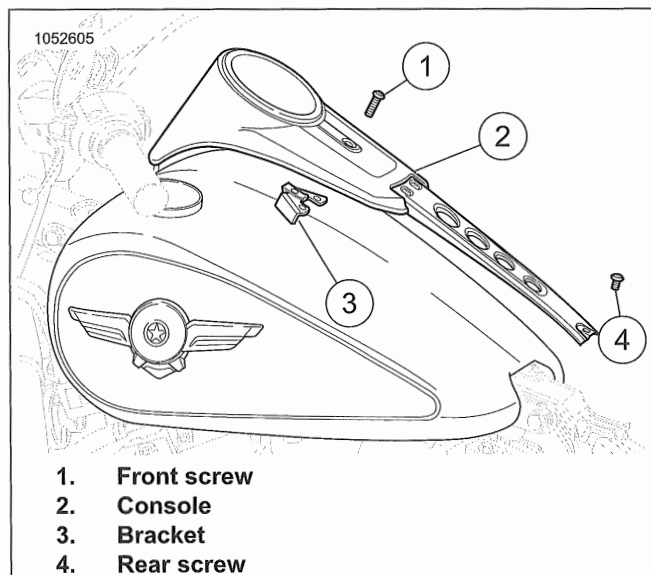
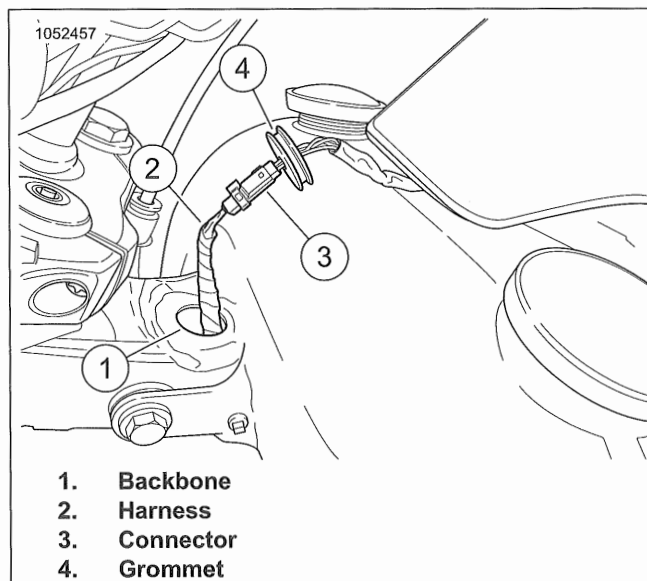

Figure 6-5. Console
Figure 6-6. Console Harness
1. See Figure 6-5. Detach console.
- a. Remove front screw (1).
- b. Remove rear screw (4)
- c. Move console (2) rearward.
2. See Figure 6-6. Disconnect connector.
- a. Remove grommet (4) from backbone (1).
- b. Pull harness (2) from backbone.
1. See Figure 6-6. Connect connector.
- a. Connect connector (3).
- b. Feed harness (2) into backbone (1).
- c. Position grommet (4) into backbone.
2. See Figure 6-5. Install console.
- a. Align console (2) with bracket (3).
- b. Install front screw (1).
- c. Install rear screw (4).